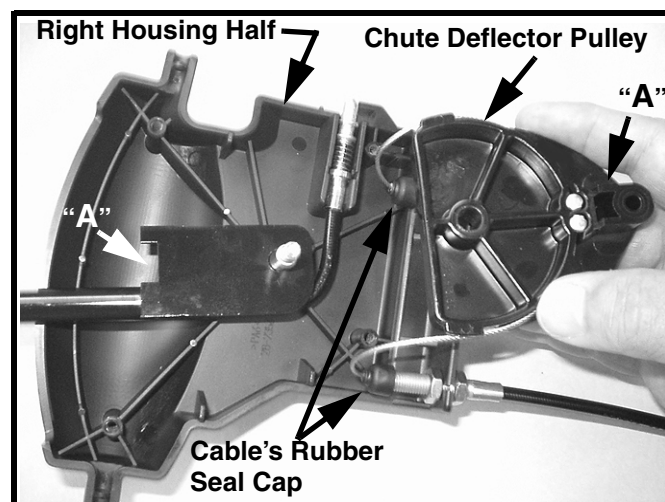
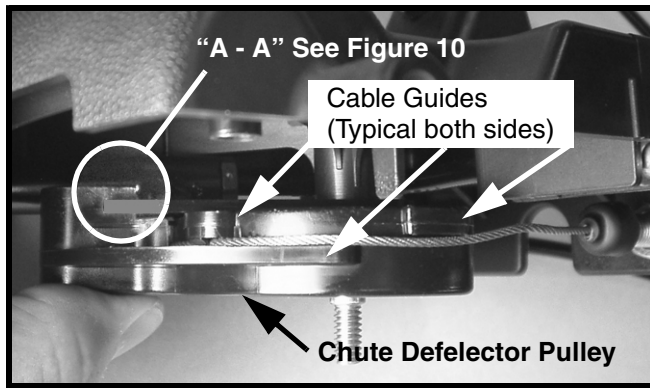

FIGURE 10
FIGURE 11
23. Before placing the two joystick housing halves together remove the shoulder bolt from the left housing half and insert it into the right housing half. Place the Joystick Lever Assembly (Item 1) onto the center shoulder bolt as shown in Figure 10.
24. Make sure that the cable's rubber seal caps are set completely down on the threaded cable ends as shown in Figure 10. Ensure that the chute deflector control cables are positioned within their guides as shown in Figure 11.
25. Holding the right housing half with the joystick lever assembly installed in your right hand place the chute deflector cable's/pulley sub-assembly onto the center shoulder bolt as shown in Figure 11.
**NOTE:** Ensure that both chute deflector cables are properly routed between the pulley guides as shown in Figure 11. If you had removed the discharge chute's deflector mechanism or just it's cables at the discharge chute, it may be necessary to pull any excess cable from the joystick control housing to ensure proper cable routing.
28. Re-install the four (4) housing screws removed in Step 15.